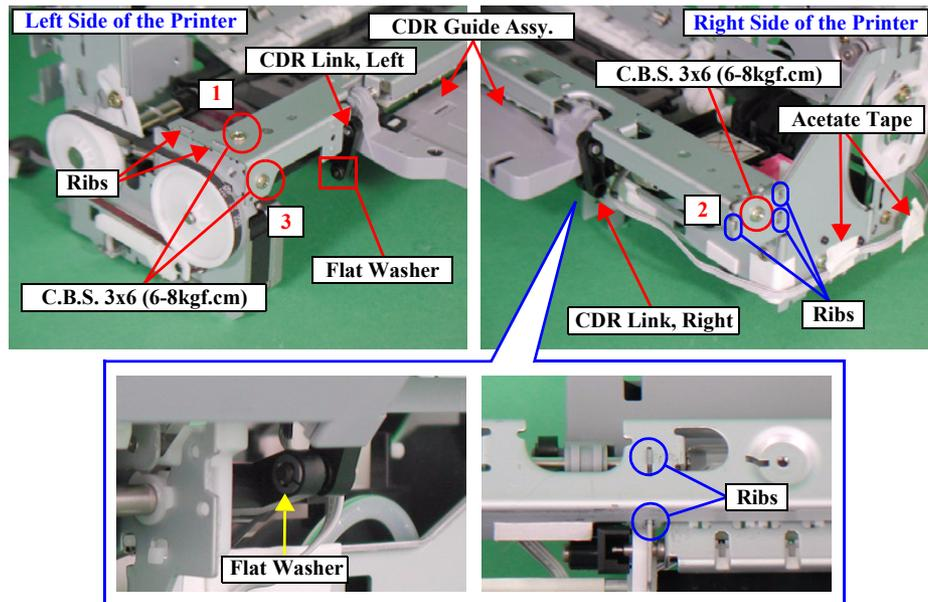

Figure 2-40. CDR Guide Assy. Removal
- Tighten the three screws to secure the CDR Guide Assy. in the order shown in Figure2-40.